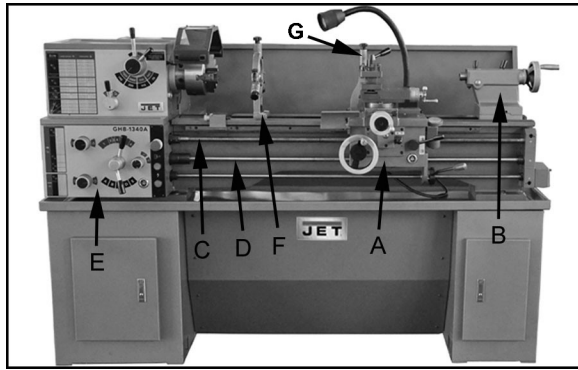

Figure 8-2
3. **Gear Shaft** – Find the oil nipple (F, Figure 8-2) and oil with a couple drops of Mobil DTE® Oil Heavy Medium once weekly.
The apron (A, Figure 8-2) is mounted to the carriage. In the apron a half nut is fitted. The half nut gibs can be adjusted from the outside. The half nut is engaged by use of a lever. Quick travel of the apron is accomplished by means of a bed-mounted rack and pinion, operated by a handwheel on front of apron.
The tailstock (B, Figure 8-2) slides on a v-way and can be locked at any location by a clamping lever. The tailstock has a heavy-duty spindle with a Morse Taper #4.
The leadscrew (C Figure 8-2) and feed rod (D, Figure 8-2) are mounted on the front of machine bed. They are connected to the gearbox at the left for automatic feed and lead. They are supported by bushings on both ends.
The gear box (E, Figure 8-2) is made from high quality cast iron and is mounted to left side of machine bed.
The steady rest (F, Figure 8-2) serves as a support for shafts on the free tailstock end. The steady rest is mounted on the bedway and secured from below with bolt, nut and locking plate.
The traveling follow rest (G, Figure 8-2) is mounted on the saddle and follows the movement of the turning tool. Only two fingers are required as the turning tool takes the place of the third. The follow rest is used for turning operations on long, slender workpieces. It prevents flexing of the workpiece from the pressure of the cutting tool.